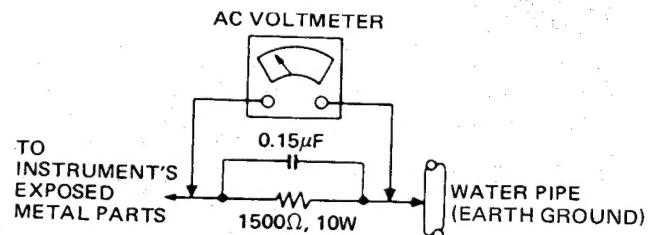

Fig. 1
2. Connect a 1500 ohm, 10 watt resistor, paralleled by a  $0.15\mu F$  capacitor between each exposed metallic part and a good earth ground like a water pipe as shown in Fig. 1.